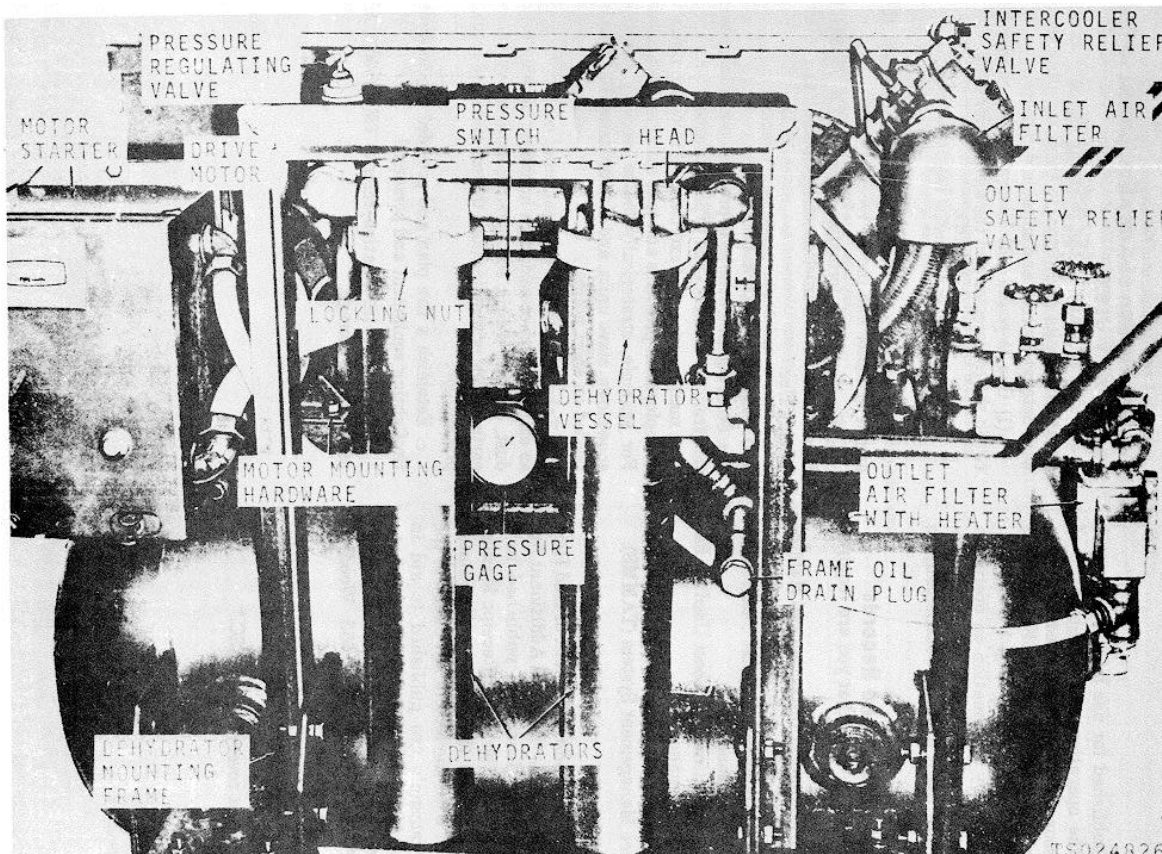

Figure 2-1. Air compressor controls and instruments (Sheet 1 of 3).
c. *Pressure Switch.* The pressure switch (sheet 1 of 3, fig. 2-1) is the automatic start and stop control. It makes and breaks the electrical circuit that starts and stops the driving motor. The pressure switch is piped to the air receiver and is actuated by changes of air pressure in the air receiver.
d. *Pressure Gage.* The pressure gage (sheet 1 of 3, fig. 2-1), dial is marked with a dotted line at 175 psi, and a solid line at 200 psi. When the gage indicator band indicates 175 psi (or lower) the pressure switch will turn the drive motor ON. When the indicator reaches 200 psi, the pressure switch will turn the drive motor OFF.